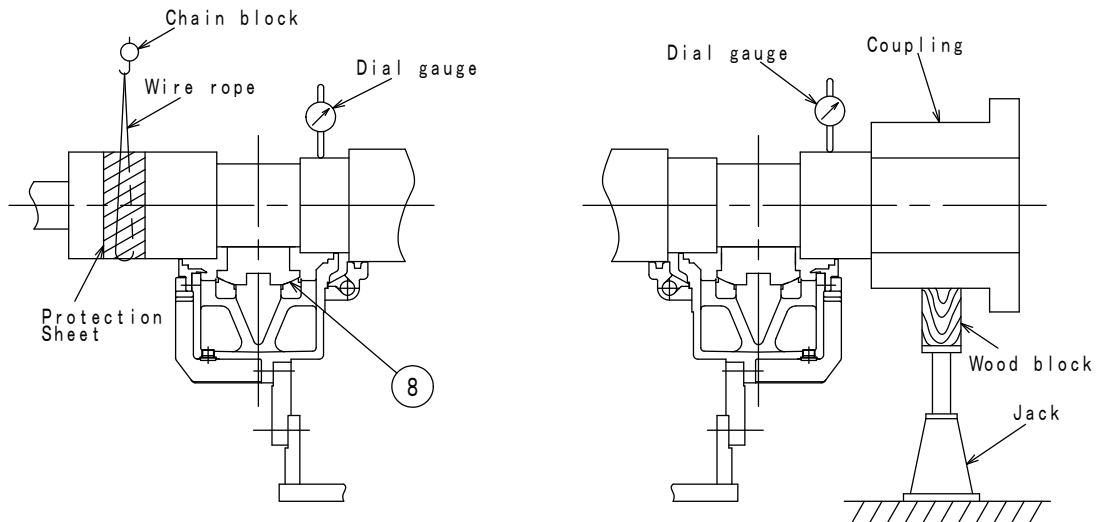

Fig. 13-6
- (6) Disassembly of bearing shell lower half (see Fig. 13-6, 7, 8)
- Lift up the rotor within the limit that can remove bearing shell lower half ⑧. In this procedures, take care to avoid the contact of the air gap between the rotor and the stator. The allowable lifting limit is 0.5 mm.